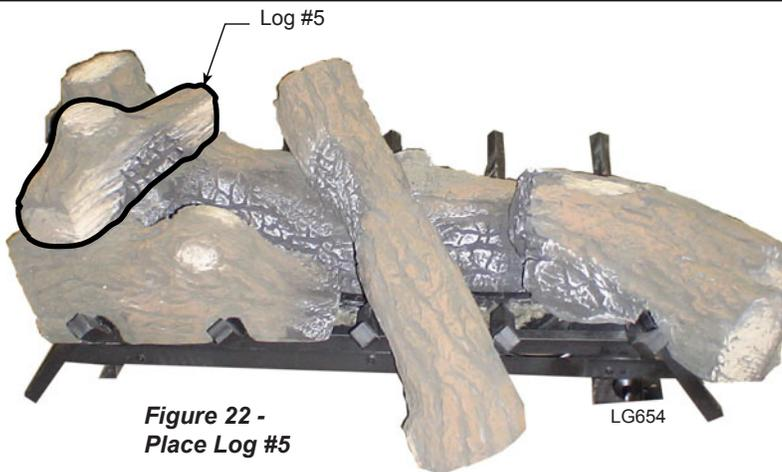

Figure 22 - Place Log #5
- 5. Place log #5 by placing rectangular notch on bottom of log onto matching rectangular protrusion on log #2. Make sure ember or 'burnt' portion of log is facing center of burner. *Figure 22*